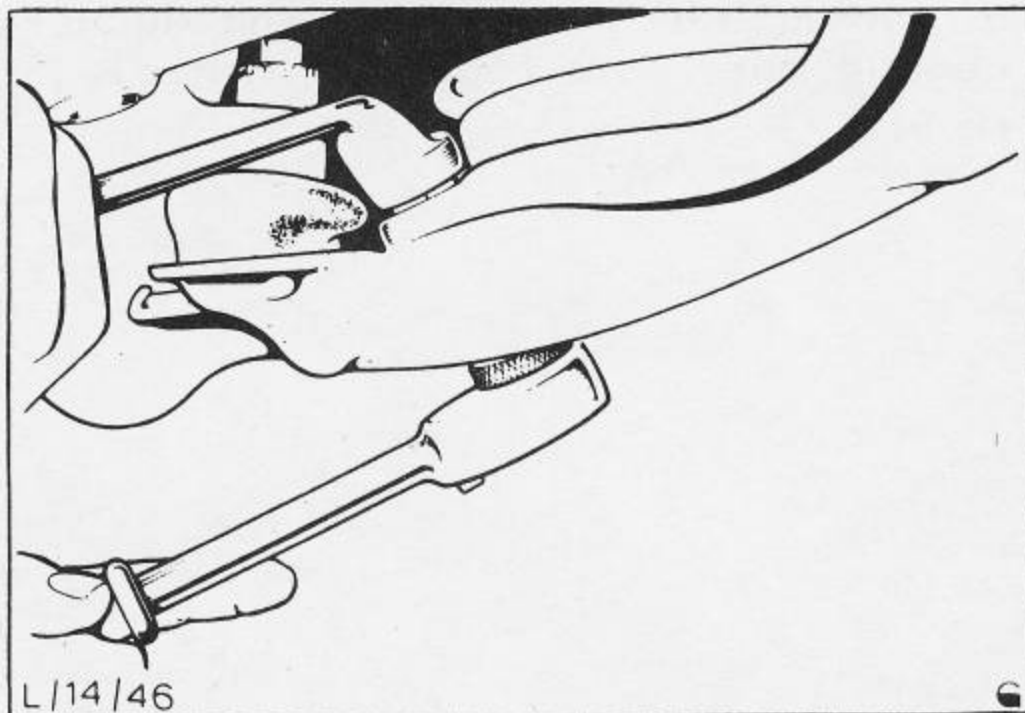

Fig. 57
10. Reconnect two bolts connecting link arm to lower wishbone assembly and tighten to 43 – 50 Ft. Lbs Fig.57